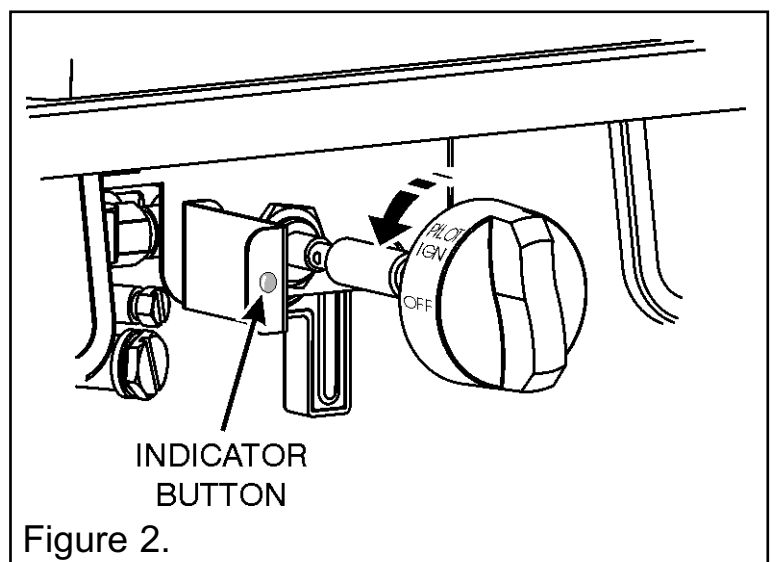

Figure 2.
– Depress the control knob and rotate it anticlockwise to the pilot ignition position (See figure 2). A 'click' will be heard as the integral piezo operates. A flame should appear at the pilot. Keep the control knob depressed and hold the pilot ignition position for five seconds. When the control knob is released the pilot flame should remain lit. If a flame does not appear at the pilot then turn the control knob clockwise to the 'OFF' position and repeat the above.